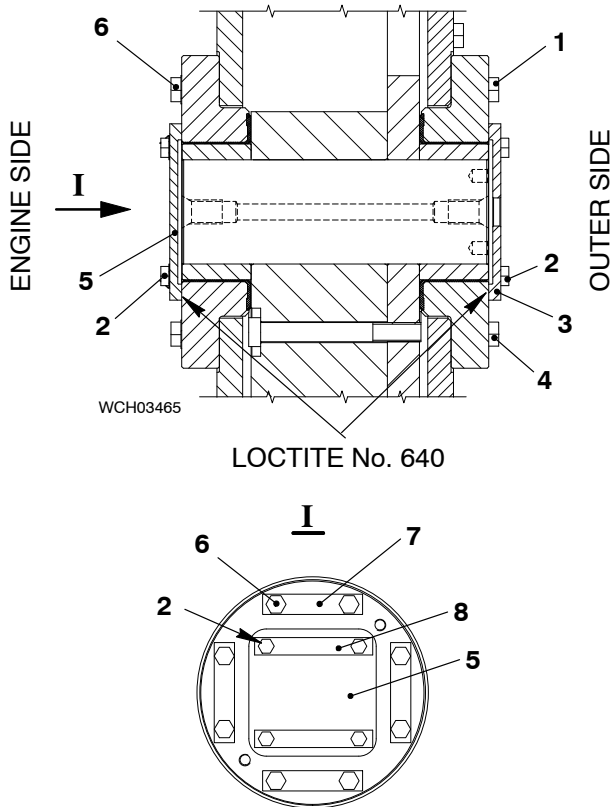
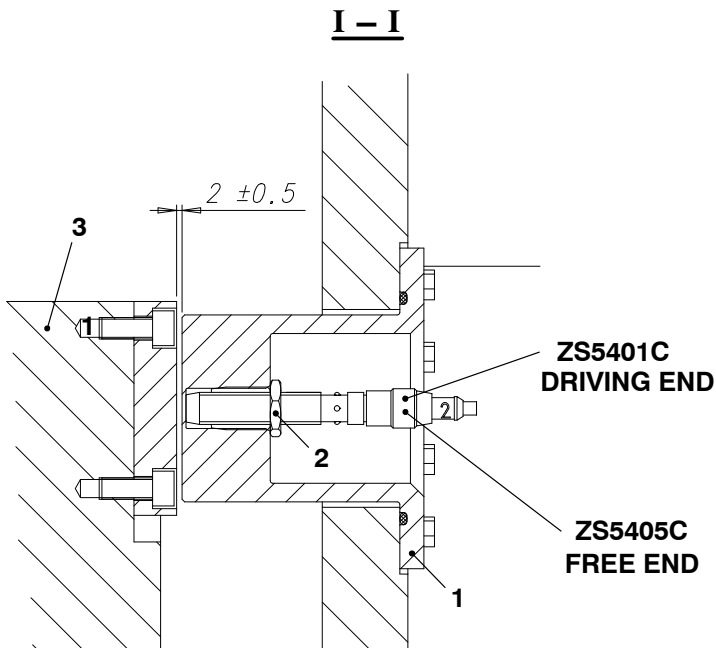

Fig. 18
Fig. 2
- 1) Attach the eight M20x70 bolts (1, Fig. 18) to the outer side of each bearing.
- 2) Torque the eight M20x70 bolts (1) to the value given in 0352 2, paragraph 1.
- 3) Apply Loctite No. 640 to the surfaces that touch on the bearing cover (3).
- 4) Attach the bearing cover (3) to the bearing with the four M16x35 screws (3).
- 5) Torque the four M16x35 (3) to the value given in 0352 2, paragraph 1.
- 6) Attach the locking plates (7) to the engine side of each bearing with the eight M20x70 bolts (6).
- 7) Torque the eight M20x70 bolts (6) to the value given in 0352 2, paragraph 1.
- 9) Apply Loctite No. 640 to the surfaces that touch on the bearing cover (2).
- 10) Attach the bearing cover (5) to the bearing on the engine side with the four M16x35 screws (2).
- 11) Torque the four M16x35 screws (2) to the value given in 0352 2, paragraph 1.
- 12) Install the oil pipes (1, Fig.2) that you removed before.
- 1) Disconnect the electrical connection from the applicable proximity sensor (ZS5401C or ZS5405C, Fig. 2).
- 2) Loosen the nut (2).
- 4) Attach the new sensor fully into the sensor adapter (1).
- 5) Tighten the lock nut (2).